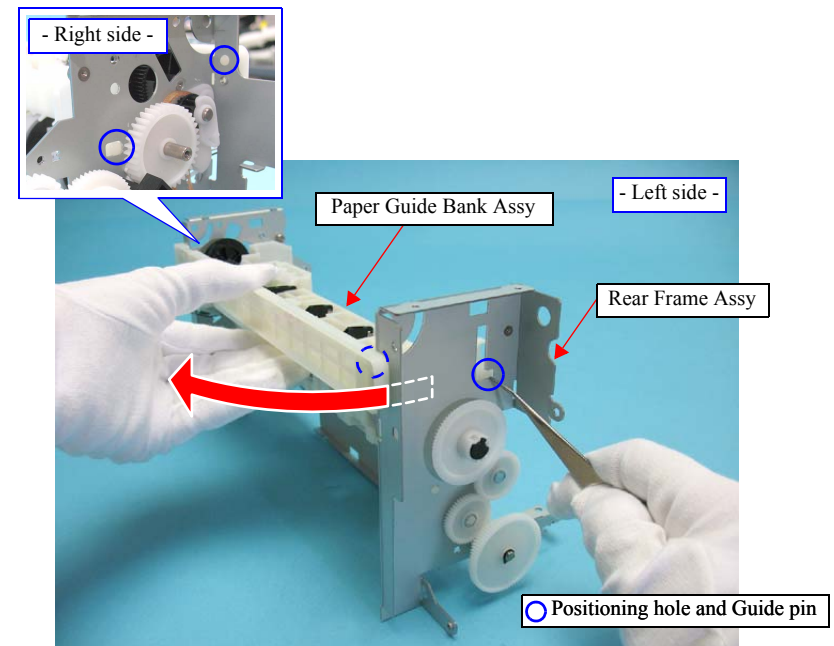

Figure 4-199. Removing the Paper Guide Bank Assy (2)
- When installing the Paper Guide Bank Assy, insert its four guide pins into the holes of the Rear Frame Assy as shown in Figure.4-199.